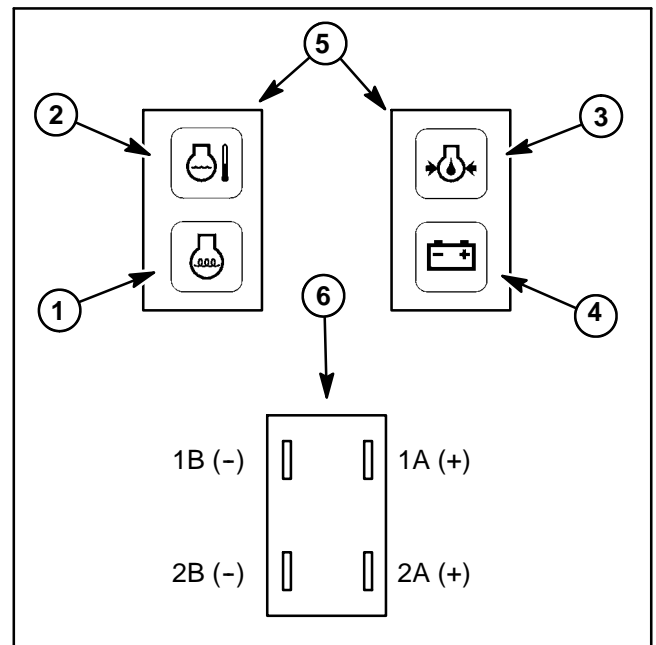

Figure 20
3. Apply 12 VDC to terminals 1A and 2A (Fig. 20).
4. Ground terminals 1B and 2B (Fig. 20).